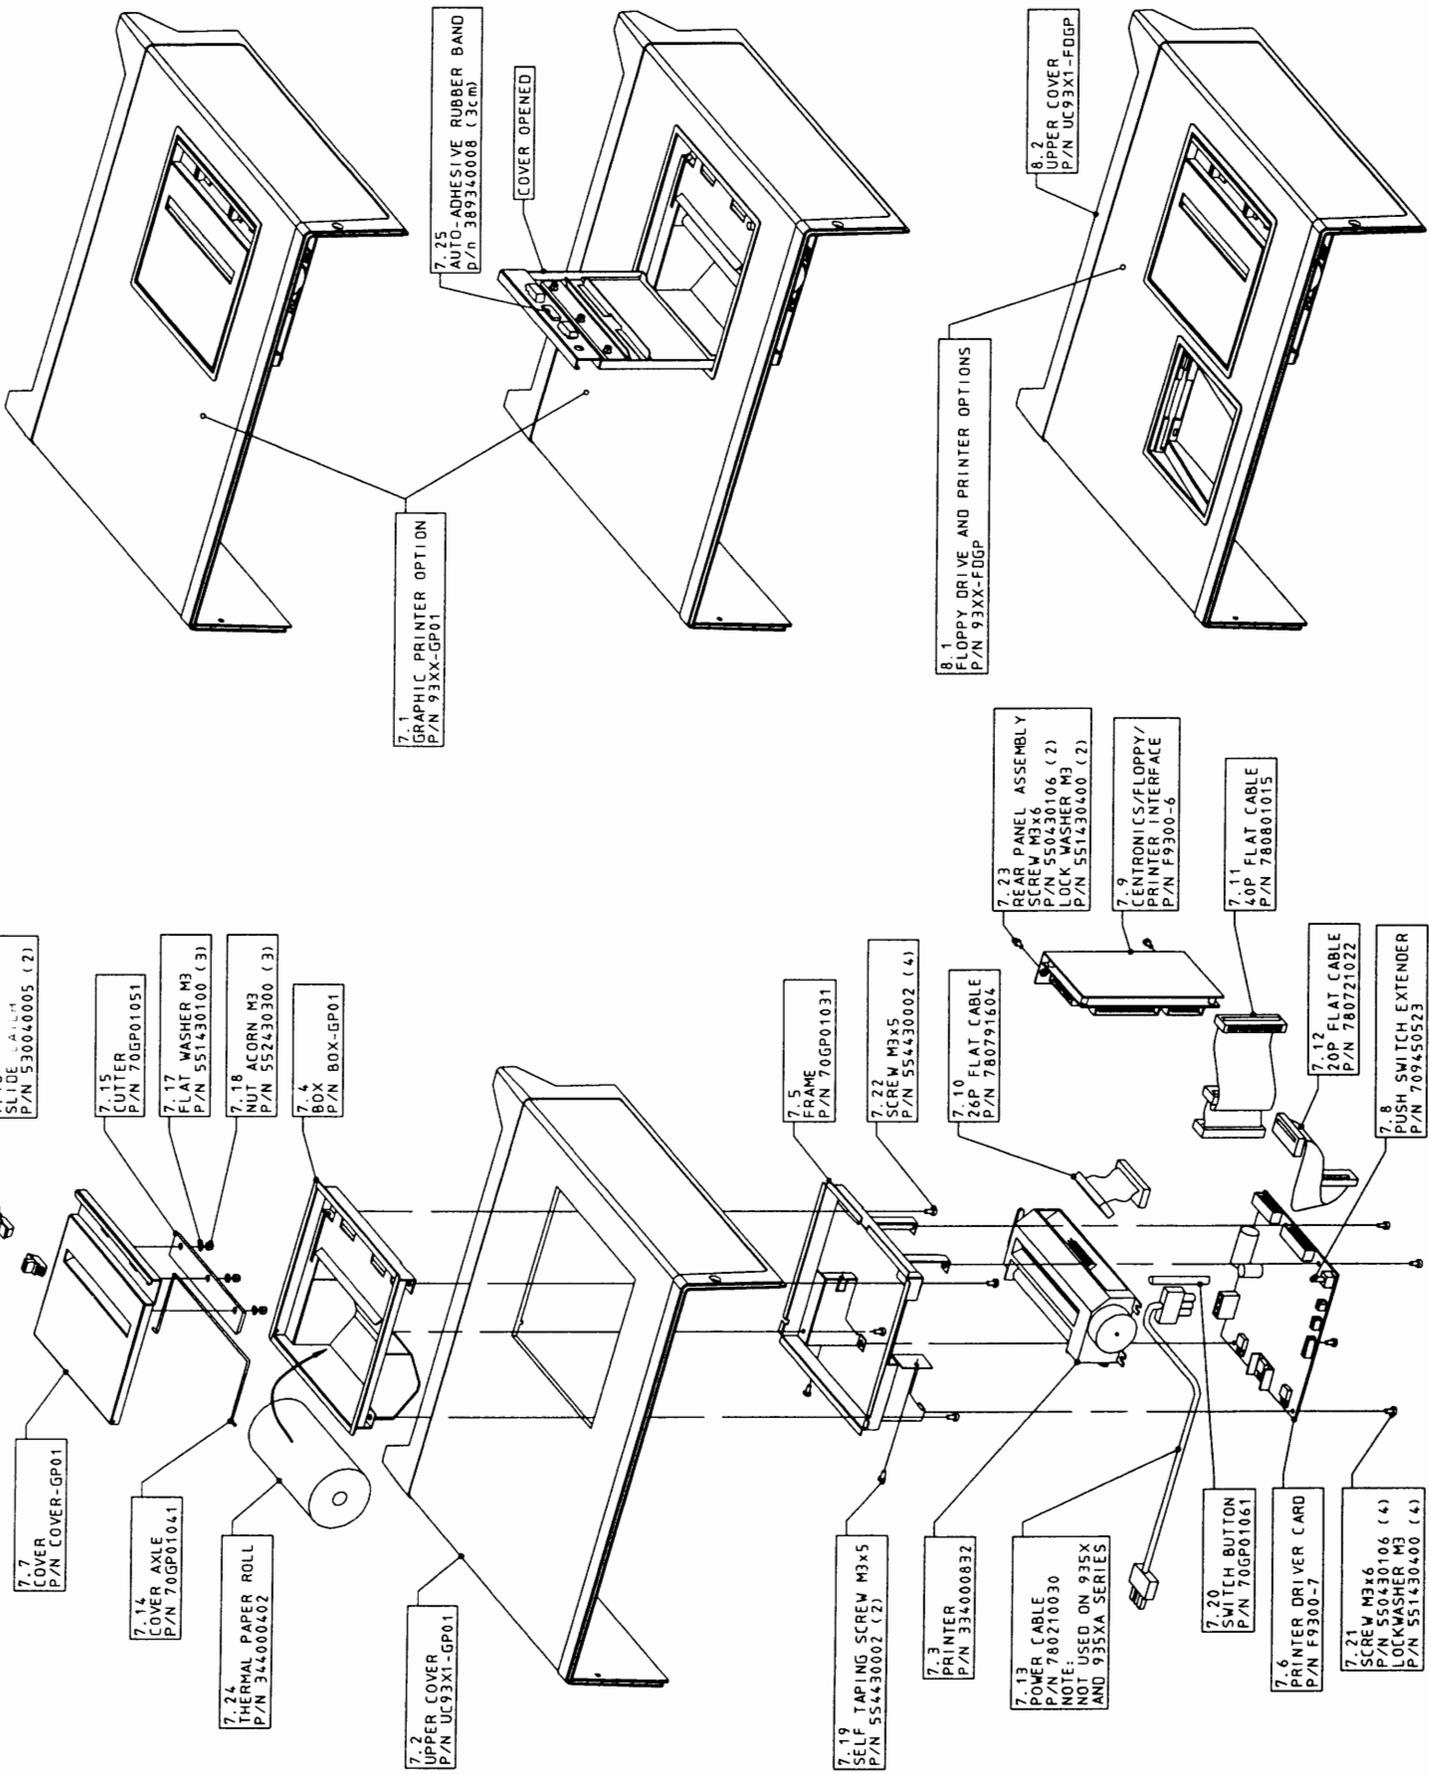

Figure 7.7 : 9314A/M/L Graphic Printer Assembly
- Disconnect the power cable (7.13) from the 93XX-PS1715 power supply (see figure 7.7).
- Disconnect the flat ribbon cable (780791604) from the F9300-7 controller (see figure 7.7).